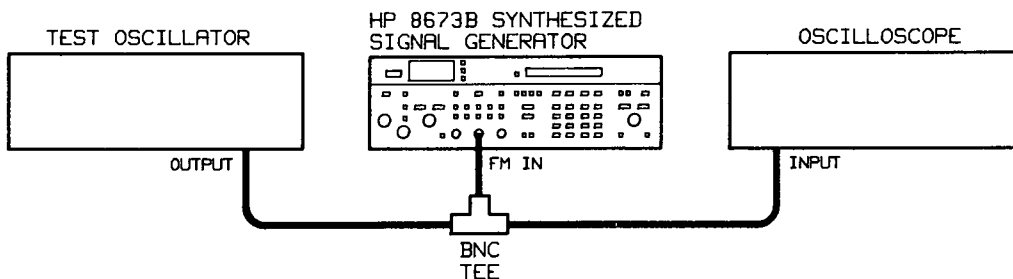

Figure 3-9. FM Functional Check Setup
36. Set the test oscillator to 3 MHz at minimum output level or 0V. Then, connect test oscillator and oscilloscope to the Signal Generator as shown in Figure 3-9.